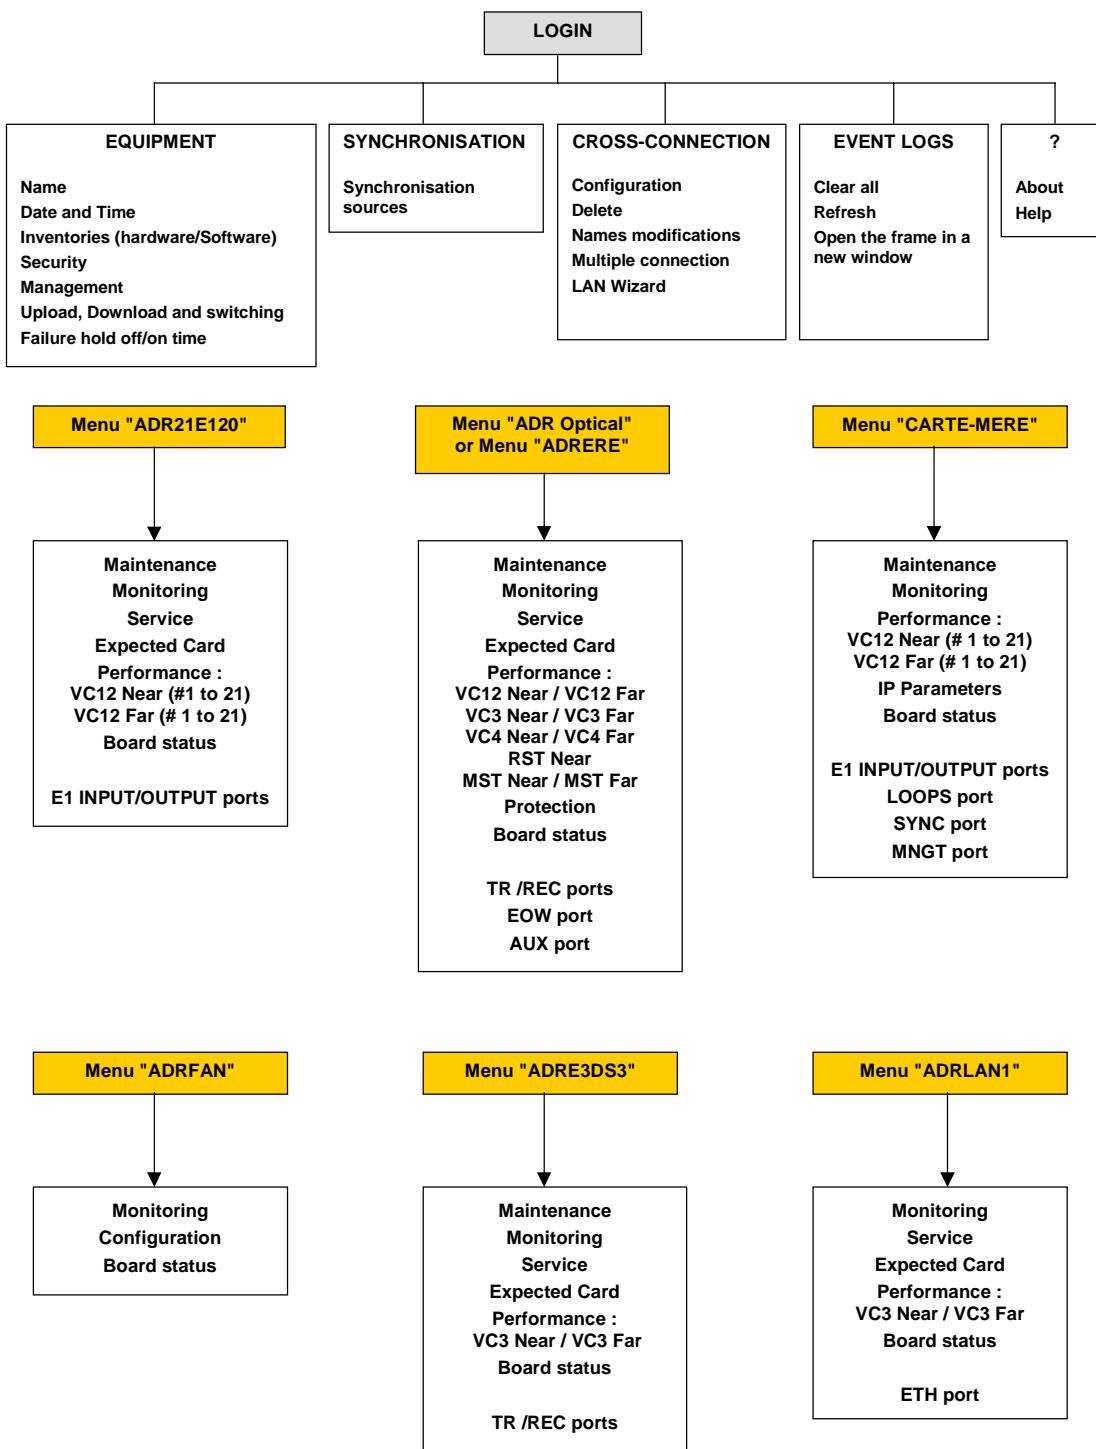

Figure 1-12 – Menu structure
- activate the common functions of the equipment, such as the synchronization, safety, traffic information, etc. by clicking on a function in the menu bar; see tree structure of the general menu, Figure 1-12.
- access the functionalities related to a module in particular (for example, MSP protection in the case of an ADR Optical module) : click on the module to be selected, the selection arrow is blinking and its specific menu appears; see the tree structure of "card" menus in Figure 1-12;